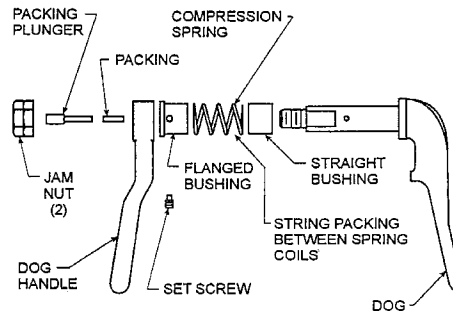
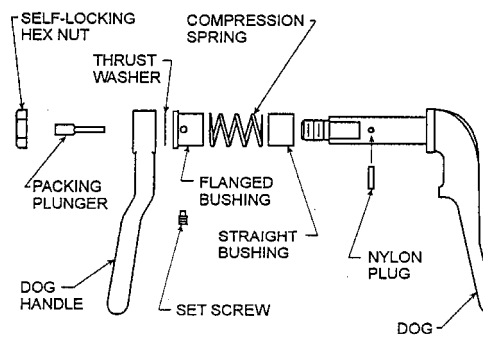
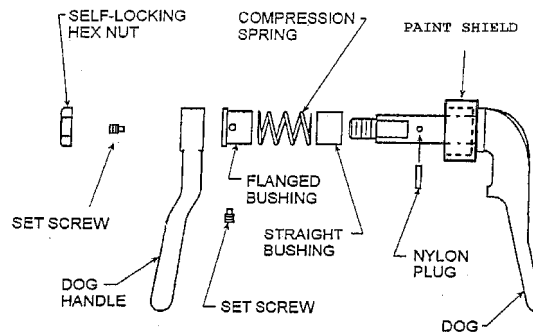

Figure 600-2.44. Individually Dogged Door Dog Assembly (Cross Sectional View)
Figure 600-2.45. Individually Dogged Door Dog Lever Assembly (Cross Sectional View) Modified by MACHALT 167-31004(ECP-444)
Figure 600-2.46. Steel Doors Only - Individually Dogged Door Dog Assembly (Cross Section View) Modified by MACHALT 167-31010 (ECP-526)
Inspect each dog assembly. Ensure that the straight bushing is firmly seated against the back of the dog and is free of dirt, rust, and paint. Ensure the flanged bushing is firmly seated against the end of the dog sleeve and is secured in place by its dog point setscrew. See figure 600-2.44. Setscrews are often painted over and may be difficult to locate. Remove paint as necessary to inspect for loose, missing, or broken setscrews. For self-lubricated bushings, a CRES thrust washer should be installed between the dog lever and the face of the flanged bushing. See figure 600-2.45.
- c. Ensure both jamnuts or self-locking hex nuts are in place on each dog assembly. Jamnuts should be locked tightly together. Remove any paint or dirt from the bushings with a wire brush and a clean rag. The straight bushing should not be stuck in the spindle sleeve and should rest against the back of the dog. If the bushing is jammed or stuck in the sleeve, it will have to be removed, and the interior of the sleeve cleaned out and lubricated, to ensure a free sliding fit of the bushing in the spindle sleeve. See figure 600-2.44, figure 600-2.45, and figure 600-2.46.